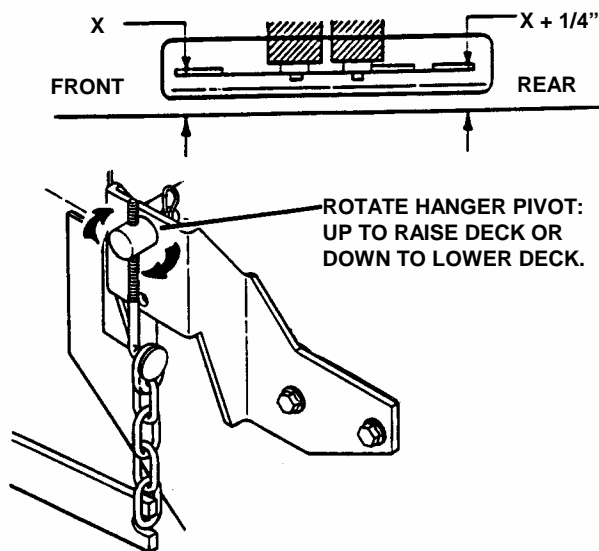

FIGURE 4.9
- Turn each hanger pivot the same number of rotations on the eye-bolt to raise or lower the rear of the deck. See Figure 4.9.